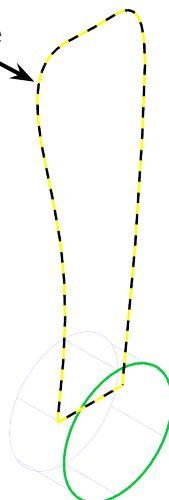

Fig. 14
Step 4. **Shift click spline** to chain **blade entities** and click End Selection  (ENTER), **Fig. 14**.